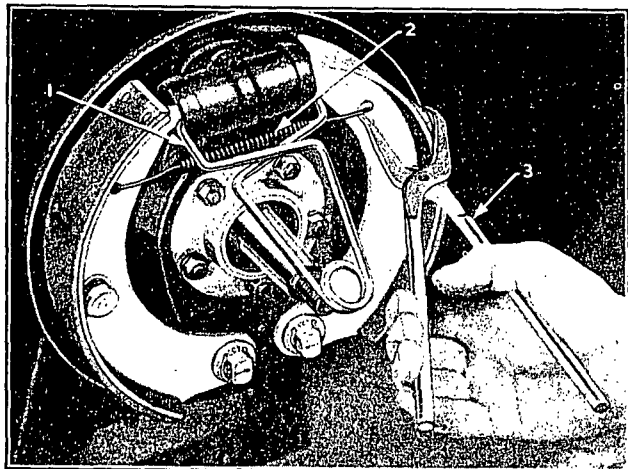

Fig. 62 —Removing Brake Shoe Return Spring
2. Remove brake shoe return springs with special pliers, to avoid bending spring ends (Fig. 62).